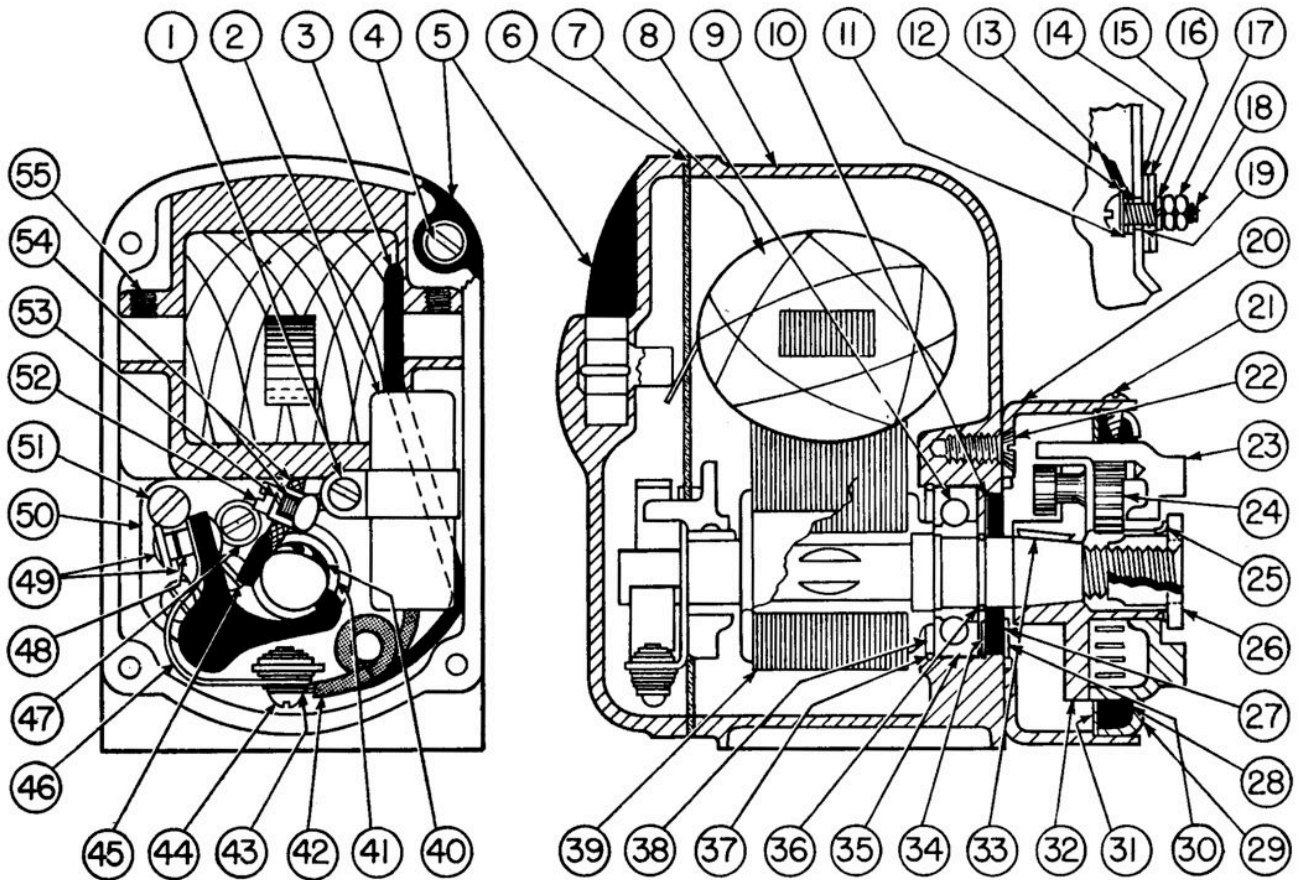

FIG. 25—NOMENCLATURE LIST FOR FAIRBANKS-MORSE MAGNETO
- 6-30. **REASSEMBLY AND INSTALLATION OF FAIRBANKS-MORSE MAGNETO.** (See figure 25.)
- a. Place insulating washer (12), flat washer (11), ground wire terminal (13), and insulating bushing (19) on terminal screw (18) in the order named; insert into hole in side of housing.
- b. On threads of screw (18), install insulating washer (14), flat washer (15) and lock washer (16); secure in place with nut (17).
- 6-32. **INSTALL FIELD COIL (7).** — Place coil in housing so that the bronze spring terminal faces out and points down, then tighten screws (55) securely.
- 6-33. **INSTALL ROTOR THRUST BEARING (8).**
- a. Place insulating washer (38) and insulating strip (35) in position on rotor thrust